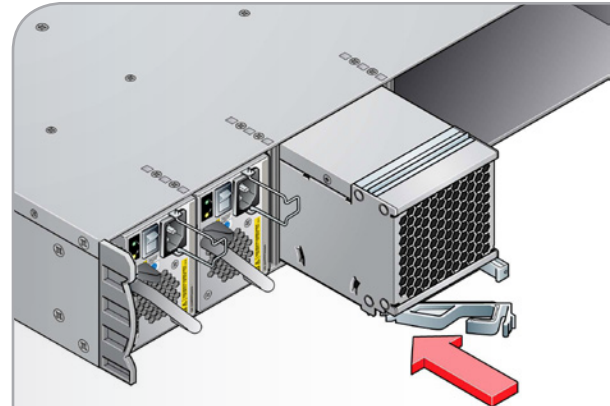

Fig. 80 - Inserting the Cooling Fan Module
2. With the latch in the open position (see Fig. 80), slide the module into the enclosure until the latch engages.